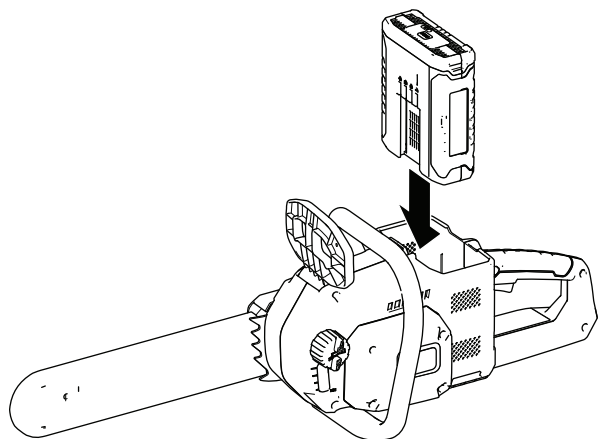

Figure 7
- Align the tongue of the battery pack with the battery cavity in the chain saw (Figure 7).